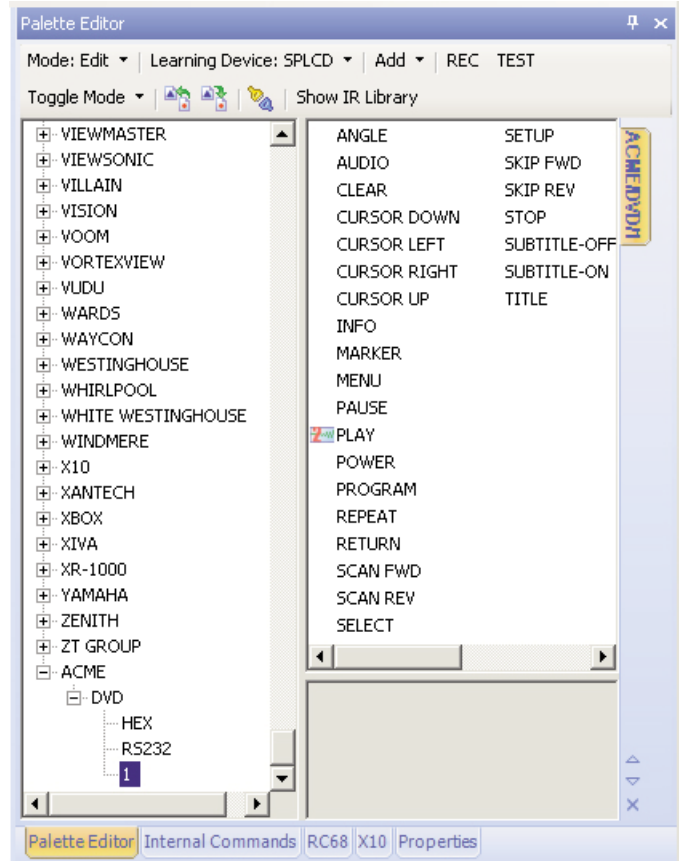

Figure 57: XIR2 Play command successfully learned
11. Perform the learning procedure as outlined in the manual for the specific Xantech device. When the message *IR Learning Was Successful* appears, click *OK*. An XIR1 or XIR2 symbol will appear to the left of the selected function, indicating that an IR code has been successfully learned (see *Figure 57*).